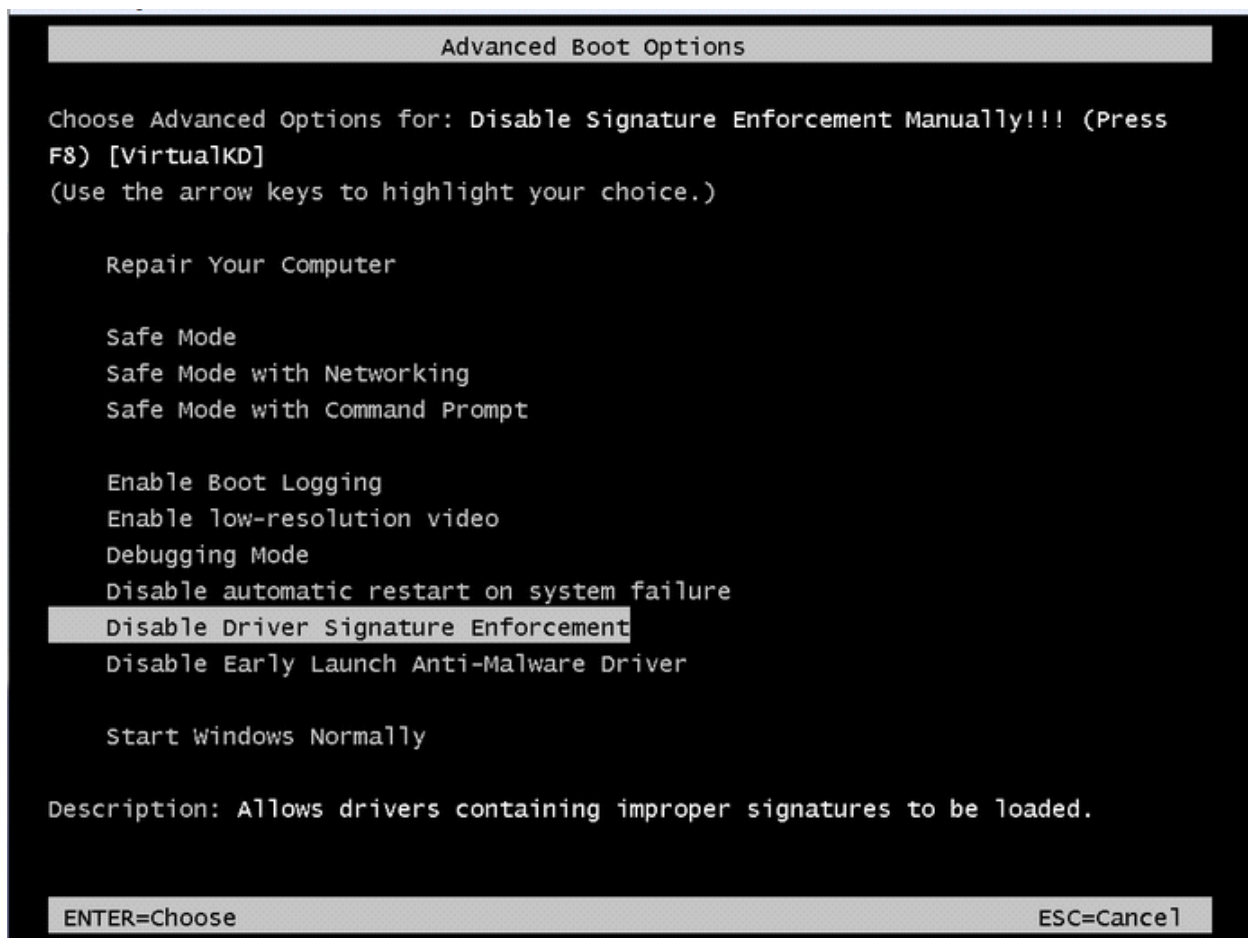

Figure 2-1: Disable Driver Signature Enforcement
2. Select the **Disable Driver Signature Enforcement** option as shown in Figure 2-1, and press **Enter**.